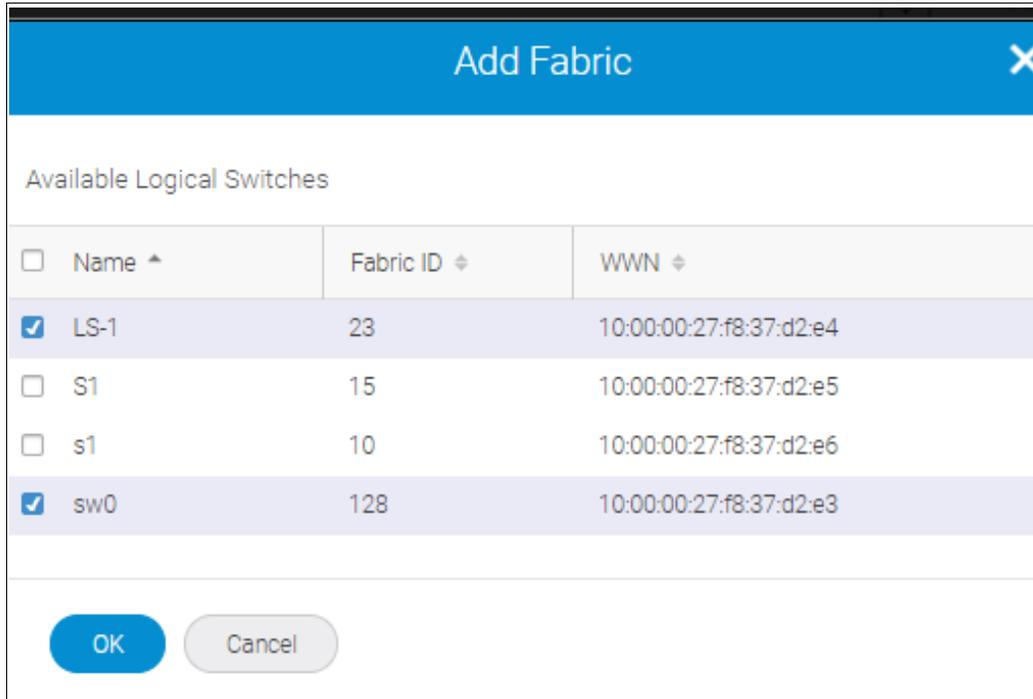

Figure 4-13 Add Fabric
8. Select one or more logical fabrics to discover and click **OK**, as shown in Figure 4-13.